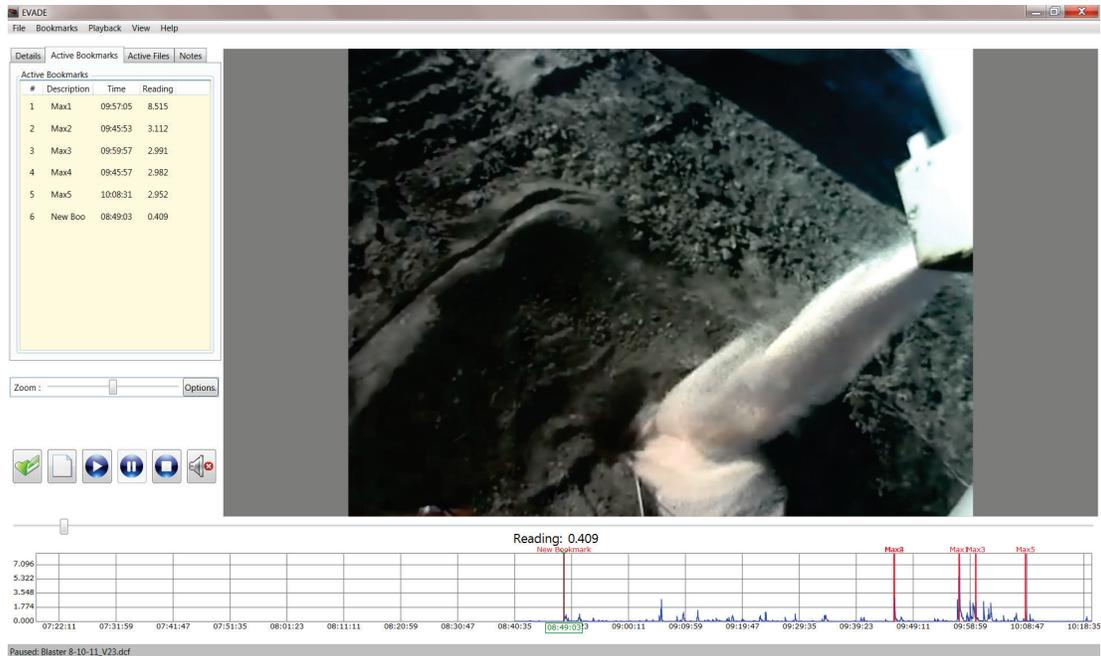

Figure 34. The “New Bookmark” added to the dust concentration graph. This bookmark is also shown on the Active Bookmarks tabs on the left.
For example, typing a description such as “*New Bookmark*” in the Description box and clicking **OK** will add a new bookmark at the location of the vertical green line (Figure 34) and label that location “*New Bookmark*.” It will also number the bookmark with the next consecutive number (shown as Bookmark # 6 in the Active Bookmarks tab in Figure 34).
- The new bookmark appears as the last bookmark in the tabs information area, which is displayed when the Active Bookmarks tab is selected (located in the upper left area of the window, as shown on Figure 34).